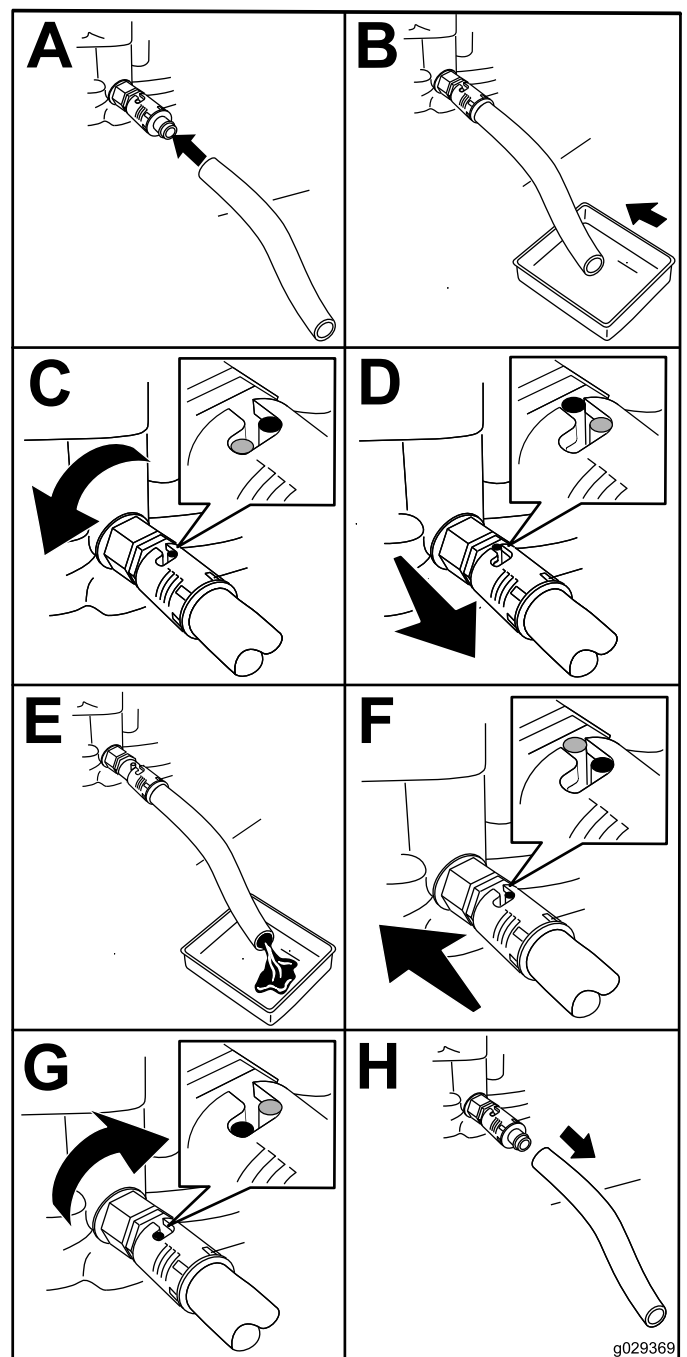

Figure 36
4. Drain the oil from the engine (Figure 36).